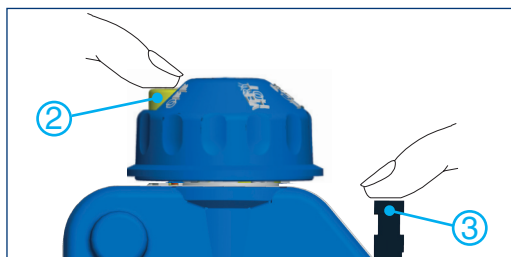

Fig. 3: Ignition button PILOT and Piezo Igniter button
Start from the OFF position (Fig.1). Rotate the control knob counter-clockwise to the PILOT position (Fig.2). Press and hold the ignition button PILOT ② for thirty (30) seconds or more and simultaneously press several times the Piezo Igniter button ③ to light the pilot flame (Fig.3). Release the ignition button PILOT and make sure that the pilot flame remains lit. If it goes out, repeat the ignition process, starting from the OFF position.